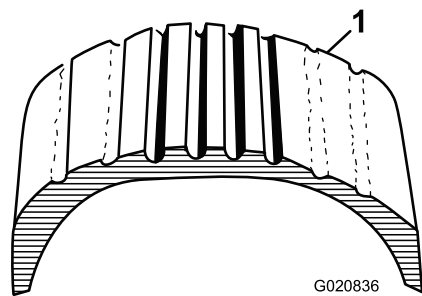
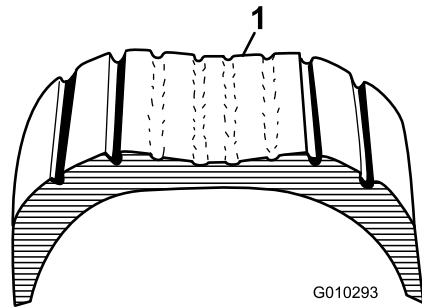

Figure 15
Figure 16
1. Visually inspect the tires for damage and wear (Figure 15 and Figure 16).